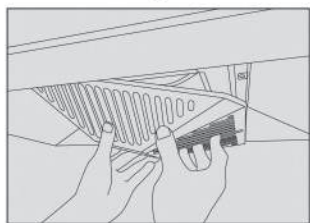

Fig. 4
4. After cleaning, install the inner cover into the outer cover of the air intake. Plug two hooks (at the left side of the air intake cover assembly) into the corresponding openings on the panel (Fig. 4). Turn the air intake cover assembly upward and fix it with screws at the right side.
- After installation of filter component, install the inner cover into the outer cover of the air intake. Plug two hooks (at the left side of the air intake cover assembly) into the corresponding openings on the panel (Fig.4). Turn the air intake cover assembly upward and fix it with screws at the right side.